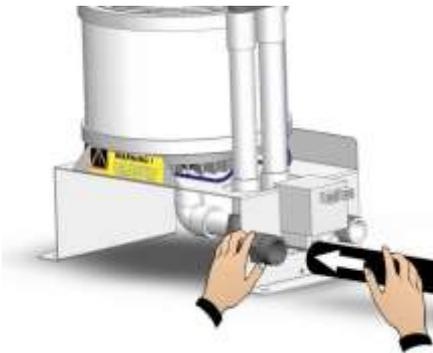

Fig. 18
3. Connect the hose for the drainage water to the 25mm diameter sleeve, securing it with the supplied clamping band (fig. 18 and 19).